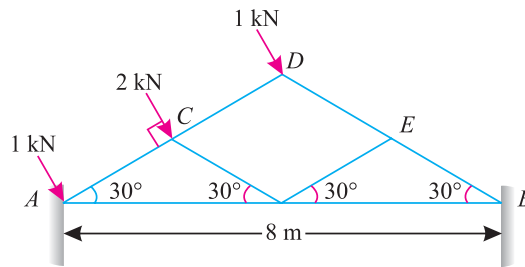

Fig. 12.35.
**Example 12.18.** Fig. 12.35 shows a roof truss with both ends fixed. The truss is subjected to wind loads, normal to the main rafter as shown in the figure.